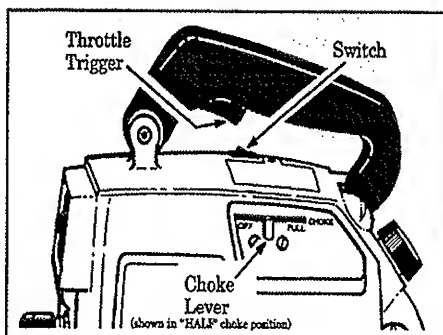

Figure 10
- To stop engine, move the switch to the "OFF" position. Figure 10.
- Move switch to the "ON" position. Figure 10.
- Move choke to "FULL" position. Figure 10.
- Move choke to "HALF" position. Figure 10.
- Allow engine to run for 10 to 15 seconds, then move choke to "OFF" position. Figure 10.
- Move choke to "OFF" position. Figure 10. Then, release the throttle trigger.
1. Move the choke lever to "Full." Figure 10.
8. Replace the air filter/cover. Return the choke lever to the "Off" position. Figure 10.